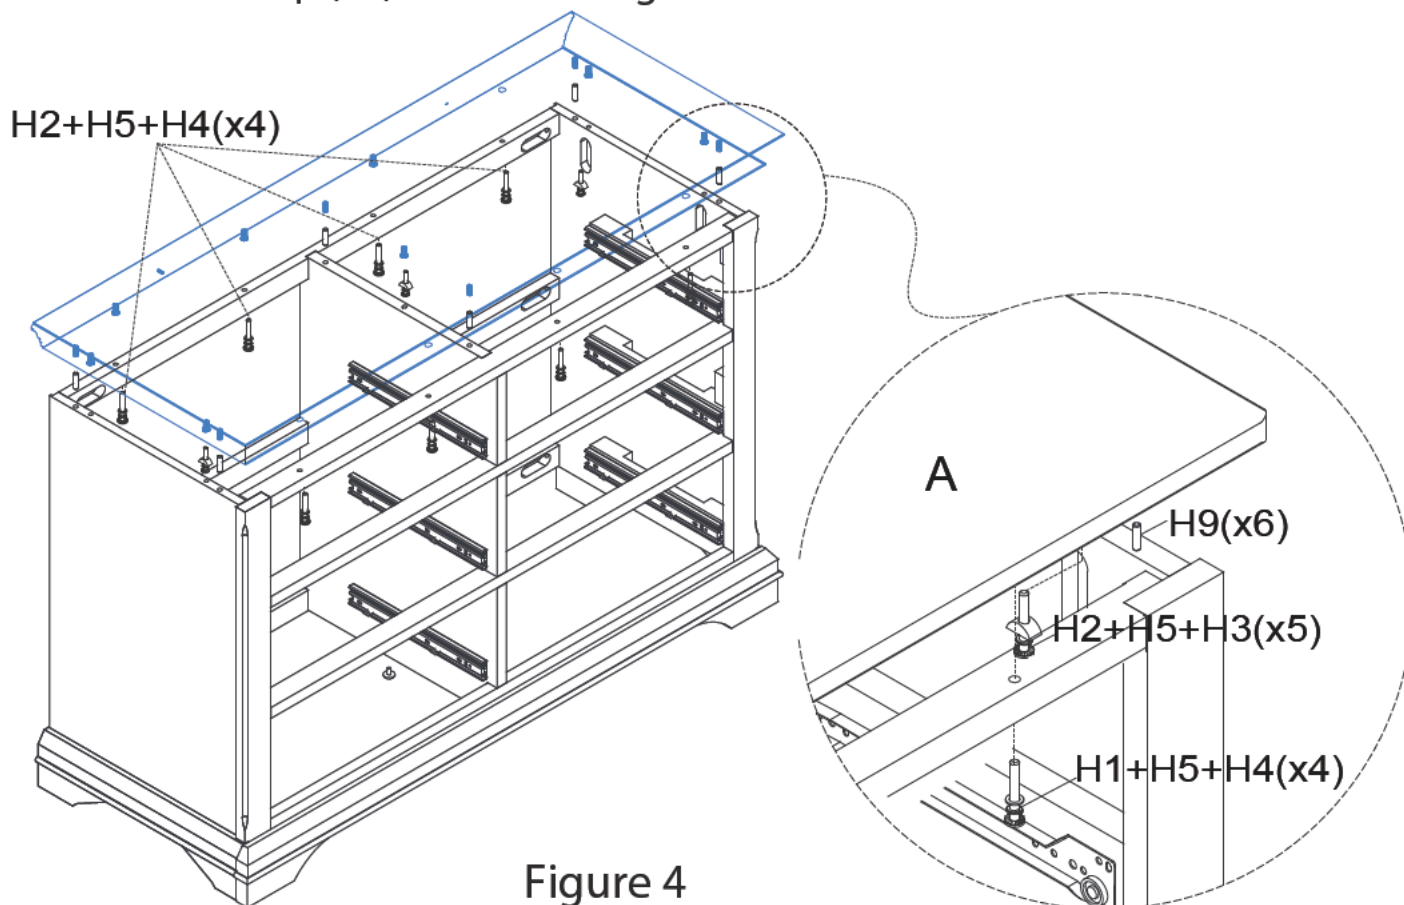

Figure 4
4. Assemble the top (A) as show on figure 4.
4. Attach Metal Connector A (H16) and Metal Connector B (H17). Figure 4